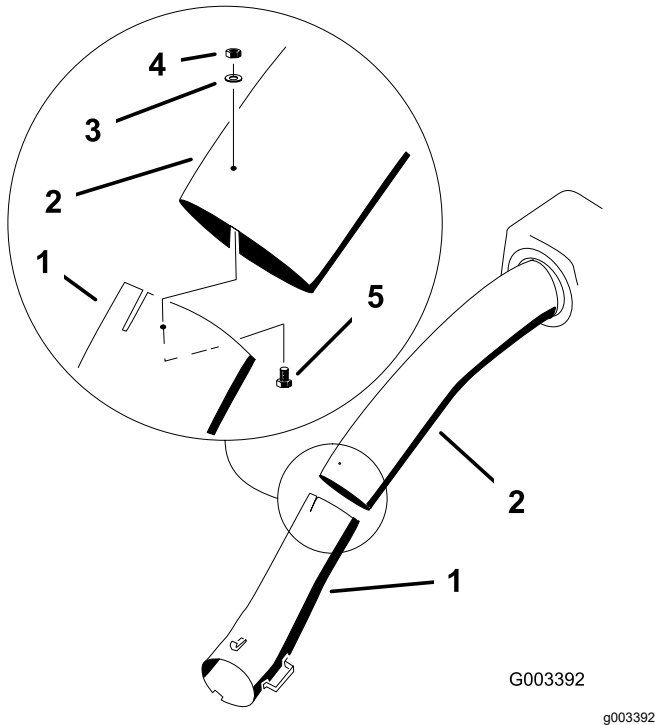

Figure 45
11. Join the upper and lower tubes with 3 bolts (#10 x 3/4 inch), flat washers, and locknuts as shown in Figure 45.